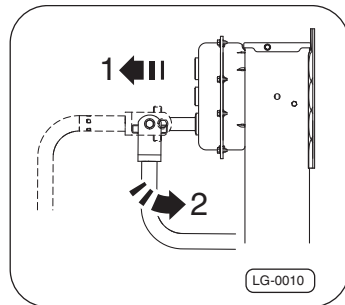

Fig. 9 · Releasing the crank handle
2. After cranking, release the crank handle –arrow 1–, Fig. 9 and fold it away –arrow 2–.